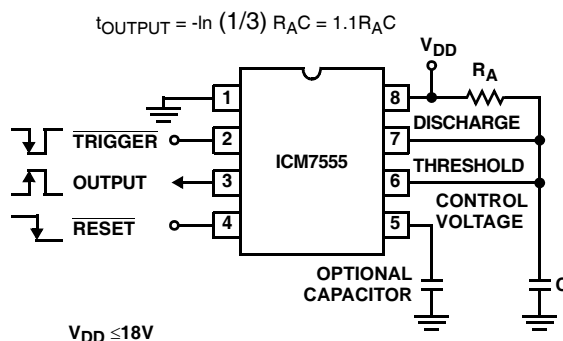

FIGURE 3. MONOSTABLE OPERATION
In this mode of operation, the timer functions as a one-shot. See Figure 3. Initially the external capacitor (C) is held discharged by a transistor inside the timer. Upon application of a negative $\overline{\text{TRIGGER}}$ pulse to pin 2, the internal flip-flop is set which releases the short circuit across the external capacitor and drives the OUTPUT high. The voltage across the capacitor now increases exponentially with a time constant $t = R_A C$. When the voltage across the capacitor equals $\frac{2}{3} V+$, the comparator resets the flip-flop, which in turn discharges the capacitor rapidly and also drives the OUTPUT to its low state. $\overline{\text{TRIGGER}}$ must return to a high state before the OUTPUT can return to a low state.